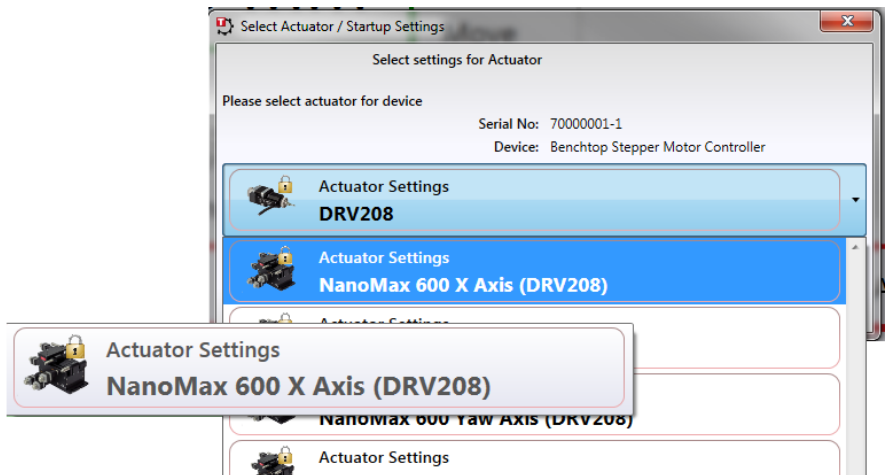

Fig. 3.2 Stage Configuration Window
- 4) Select your stage type (e.g. NanoMax 600 X Axis (DRV208) if you have a NanoMax stage fitted with DRV208 actuators on the X-axis) as shown in Fig. 3.2.